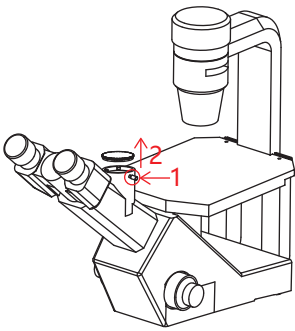

图1
- 1) Loosen the screws on the microscope eyepiece tube, remove the cover plate as shown in Figure 1;